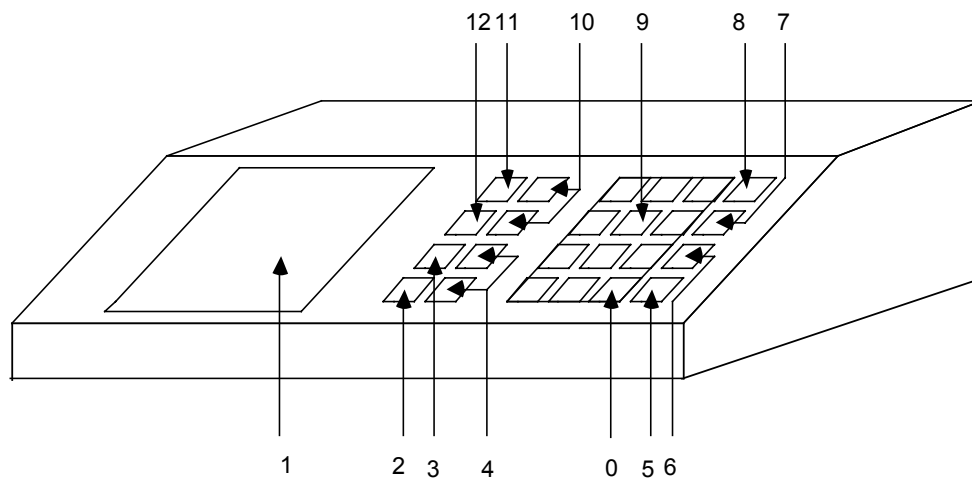

Fig. 1
- The second function is represented on the lower part of each key. To obtain this function, press simultaneously the "shift"-key  (5 on figure 1) and the desired key.
- The third function is the alphabetical entry. To select alphabetical / numerical entry, use the "alpha"-key  (8 on figure 1). The LED on the key will light to indicate the alphabetical mode. To return to numerical mode, press the "alpha"-key once again. The "shift"-key can be used in alphabetical as well as in numerical mode.
The keys   (10 on figure 1) allow you to move up or down, line by line during edition or in the menus. During display of statistics of a characteristic, they allow you to move from one screen to another.
The keys   (4 on figure 1) allow you to move up or down, page by page, during edition. During display of statistics, they allow you to move from one characteristic to another.
The key  (11 on figure 1) erases a value to allow its modification.
The key  (12 on figure 1) erases one by one the characters on the line of entry.
The command  (7 on figure 1) enables the printout of measurements and statistics on a printer.
The command  (6 on figure 1) enables the transfer of results by the serial interface.
The key  (2 on figure 1) enables the measurement reading. If dynamic measurement has been defined in the setup, a red LED will light, to indicate dynamic measurement in progress. To end the dynamic measurement, press the key once again. If the entry option for measuring instruments is present, the LED will light during measurement by an instrument.